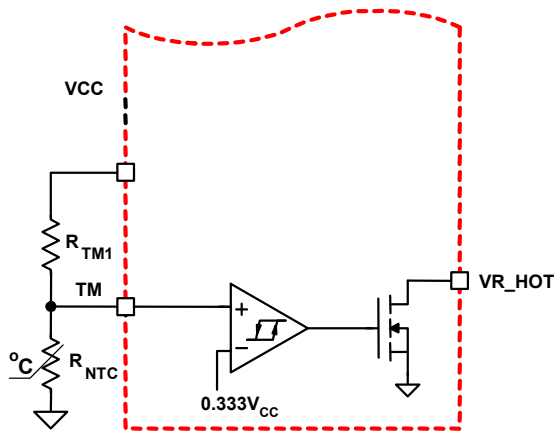
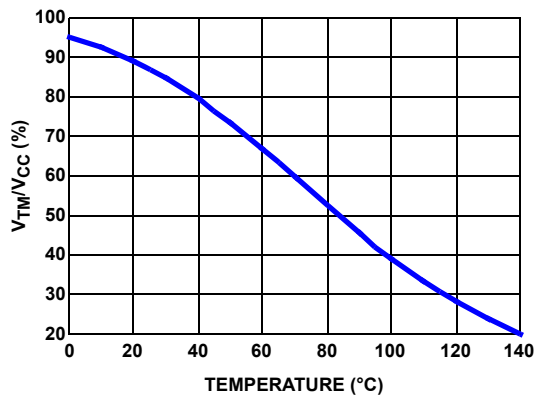

FIGURE 14. BLOCK DIAGRAM OF THERMAL MONITORING FUNCTION
FIGURE 15. THE RATIO OF TM VOLTAGE TO NTC TEMPERATURE WITH RECOMMENDED PARTS
The diagram of the thermal monitoring function block is shown in Figure 14. One NTC resistor should be placed close to the power stage of the voltage regulator to sense the operational temperature, and one pull-up resistor is needed to form the voltage divider for the TM pin. The NTC thermistor should be placed next to the current sense element of a phase that will remain active when $PSI\#$ is asserted low. As the temperature of the power stage increases, the resistance of the NTC will reduce, resulting in the reduced voltage at the TM pin. Figure 15 shows the TM voltage over temperature for a typical design with a recommended 6.8k Ω NTC (P/N: NTHS0805N02N6801 from Vishay) and 1k Ω resistor R_{TM1} . We recommend using these resistors for accurate temperature compensation.
Based on the V_{CC} voltage, ISL6336B converts the TM pin voltage to a 6-bit digital signal for temperature compensation. With the non-linear A/D converter of ISL6336B, the TM digital signal is linearly proportional to the NTC temperature. For accurate temperature compensation, the ratio of the TM voltage to the NTC temperature of the practical design should be similar to that in Figure 15.
1. Properly choose the voltage divider for TM pin to match the TM voltage vs temperature curve with the recommended curve in Figure 15.